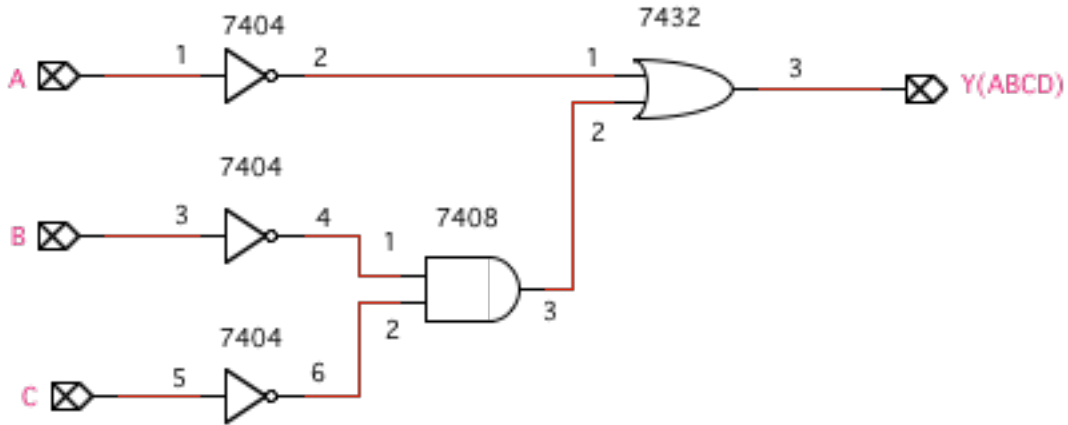

Figure 11: Mystery Circuit
- a. **Use** the schematic diagram shown in the reference figures at the end of this lab packet to guide your work. The mystery circuit is Figure 11.